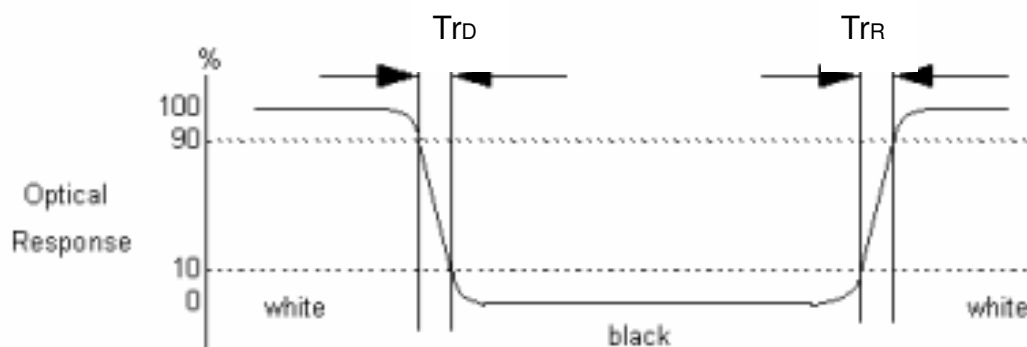

Fig.4-3 Response time
4. Response time is the time required for the display to transition from white(L255) to black(L0) (Decay Time,  $T_f=Tr_D$ ), and from black(L0) to white(L255) (Rise Time,  $T_r=Tr_R$ ). For additional information see Fig. 4-3.